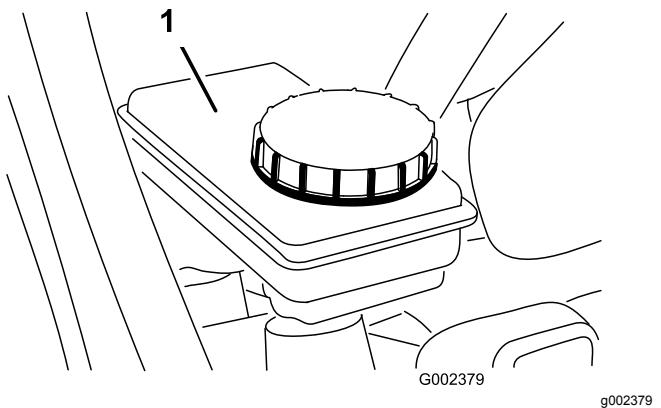

Figure 50
5. Ensure that the fluid level is up to the Full line on the reservoir (Figure 50).
6. If the fluid level is low, clean the area around the cap, remove the reservoir cap, and fill the reservoir to the proper level with the specified brake fluid (Figure 50).